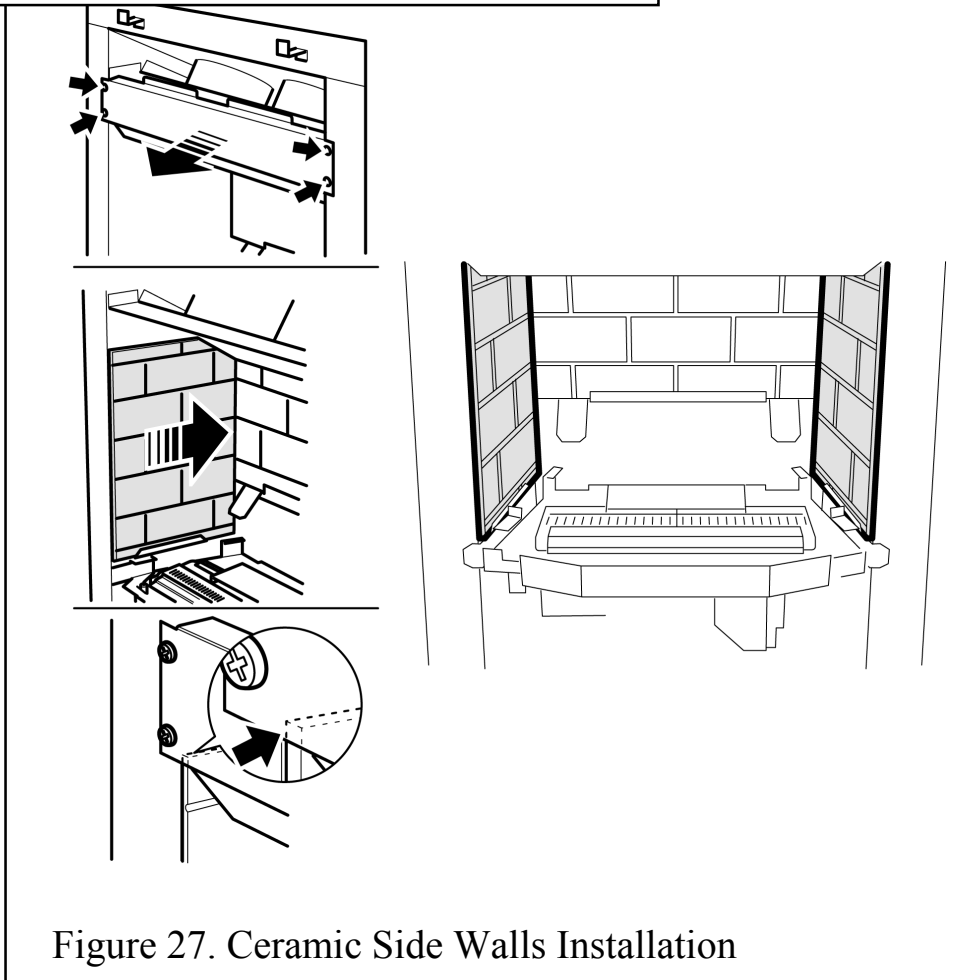

Figure 27. Ceramic Side Walls Installation
3. Remove four screws from the spillage plate sides (See figure 27).
5. Fit the ceramic side walls against the side faces of the burner compartment. The bottom edges of the walls should rest in the ledges at the sides of the firebox. Slide them in from the front and ensure that they touch the rear wall. The friction between the side walls and the rear wall should hold the side walls in position. See figure 27.